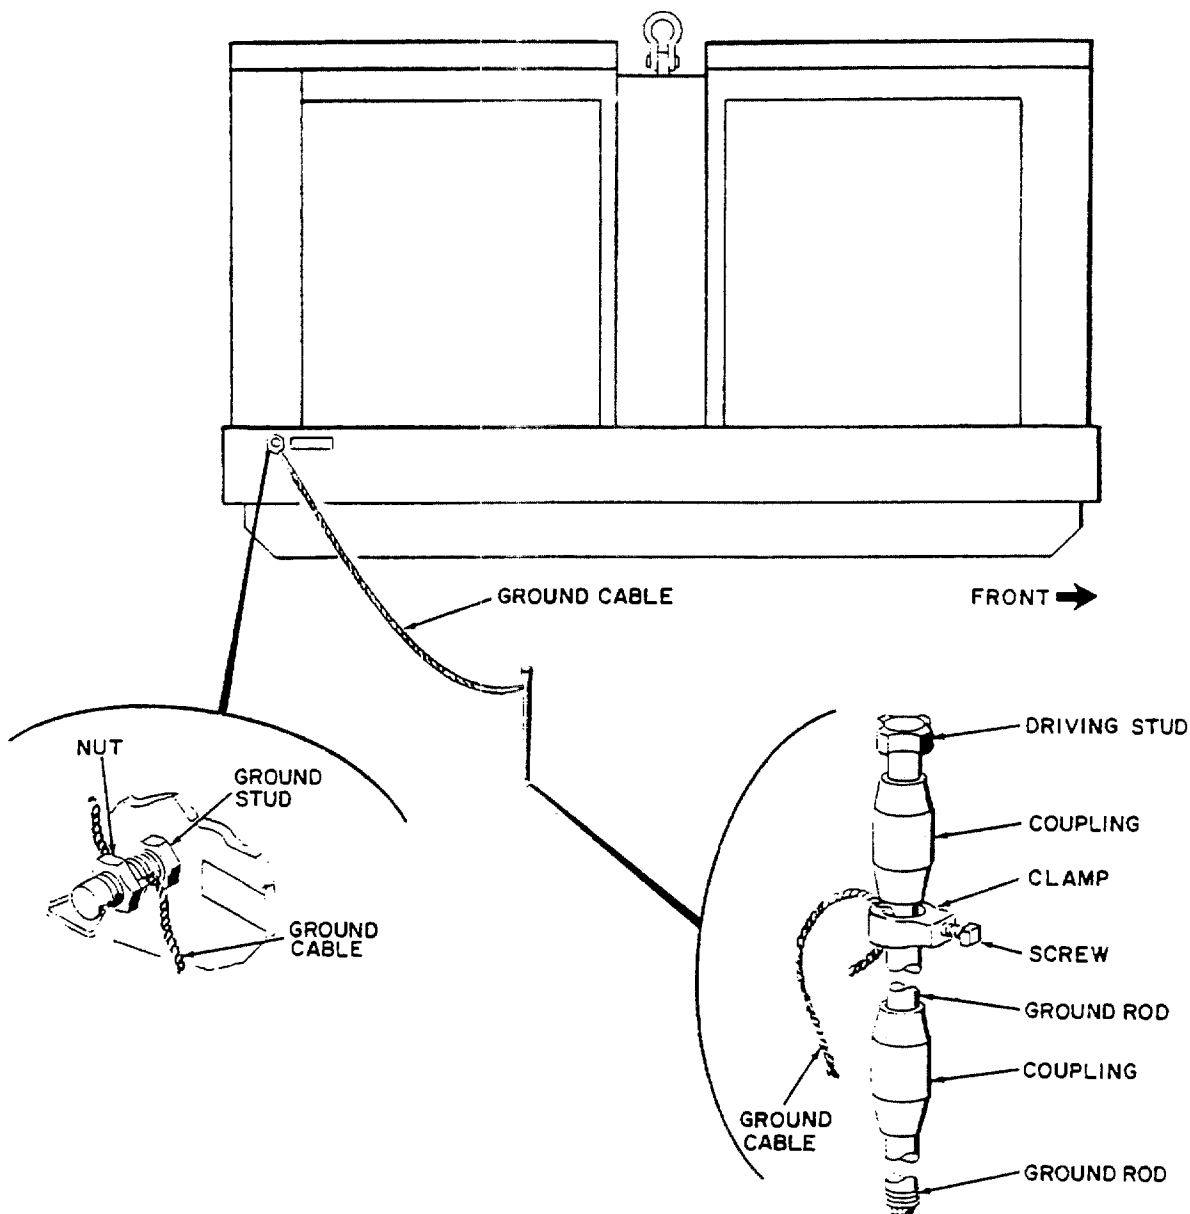

Figure 4-5. Ground Procedure
ground lead must be at least No. 6 AWG (American Wire Gauge) copper wire and must be bolted or clamped to the rod, plate, or piping system. Connect the other end of the ground lead to the generator set ground terminal stud (figure 4-5). The following procedures are to be used to install grounding rods:
c. Disconnect ground cable from ground stud by loosening nut (refer to figure 4-5). Disconnect ground cable from ground rod by loosening screw. Tape ends of ground cable to prevent unraveling and place cable in tool box.
f. (A) Refer to Appendix B and make sure all basic issue items are with generator set and properly stowed.